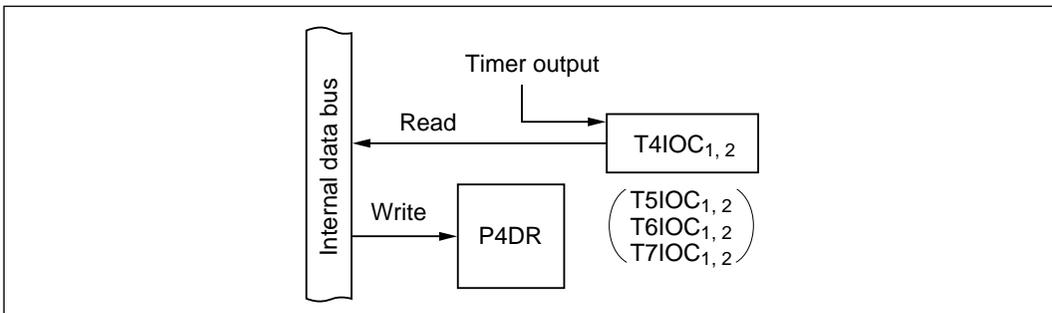

Figure 10-24 Output Compare Pins (Modes 1 to 7)
(3) Timer Output Pins (Modes 1 to 7): Figure 10-24 shows a block diagram illustrating the output compare function. Table 10-18 indicates register read/write data. When a pin in port 4 is used for output compare, the value in the port 4 data register (P4DR) has no effect on the timer output. When read, P4DR returns the timer output level (T4IOC₁, T4IOC₂, T5IOC₁, T5IOC₂, T6IOC₁, T6IOC₂, T7IOC₁, or T7IOC₂).